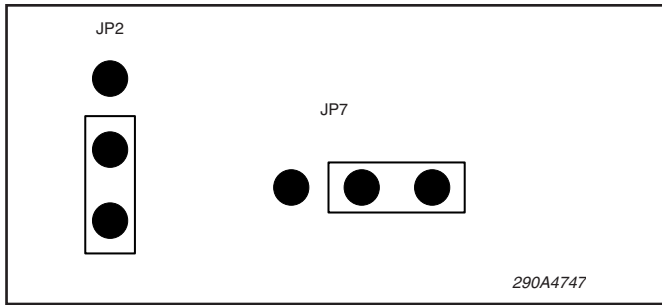

Figure 5.
a. See figure 5. Ensure that jumpers JP2 & JP7 are installed as indicated